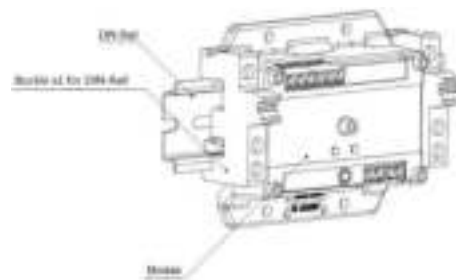

Fig. 2
- 3) The module can be mounted on a 35mm DIN-Rail as shown on Fig. 2.